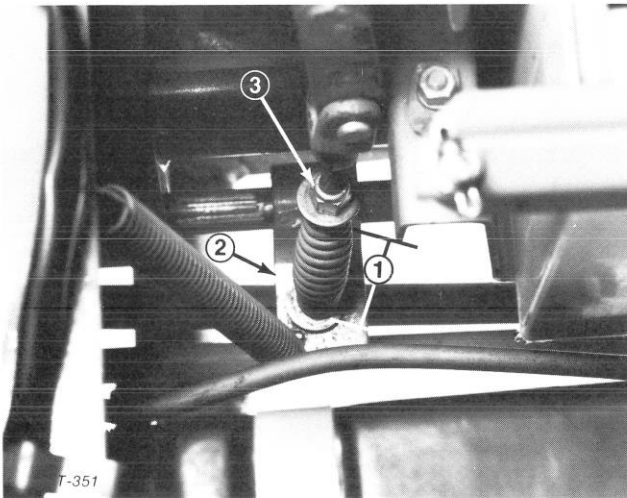

Figure 63
3. Measure length of PTO spring between flat-washers (Fig. 63). There should be a spring length of 3-3/16 in. (81 mm).
4. To adjust, hold head of adjusting screw with wrench (under PTO actuating arm) and turn locknut (Fig. 63).